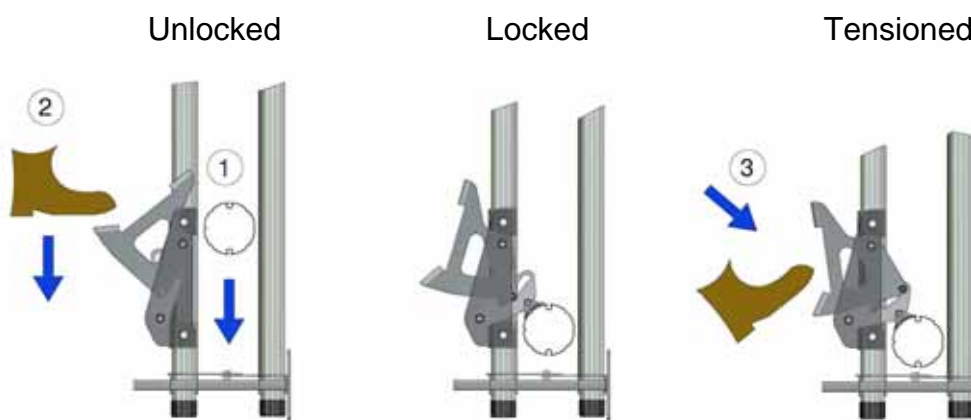

Figure 25, Locking the Curtain
8.2 When fully closed the Catches can be manually engaged to the locked position to prevent the Bottom Rolling Tube being lifted. On windy days the bottom tube must be tensioned down by fully depressing the Catch, Figure 25.